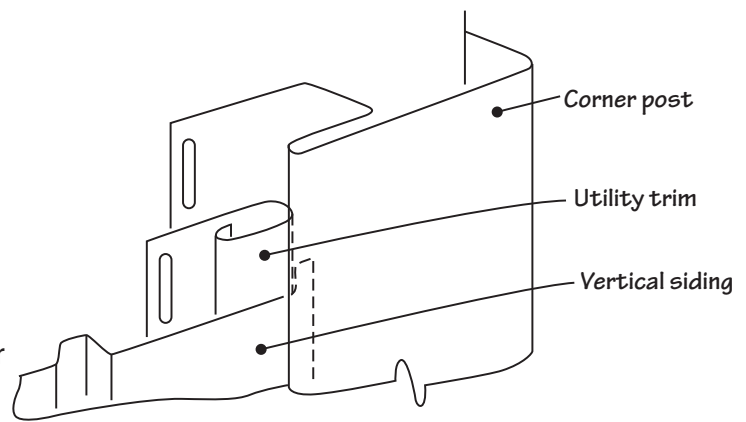

Figure 59.
- The final siding panel should be the same width as the starting course. Depending on where the cut occurs, it may be necessary to install utility trim inside the receiving pocket of the J-channel or corner post that receives the vertical siding (Fig. 59). It may also be necessary to shim the utility trim outward to a level equal that of the siding panel face, in order to keep a level appearance.